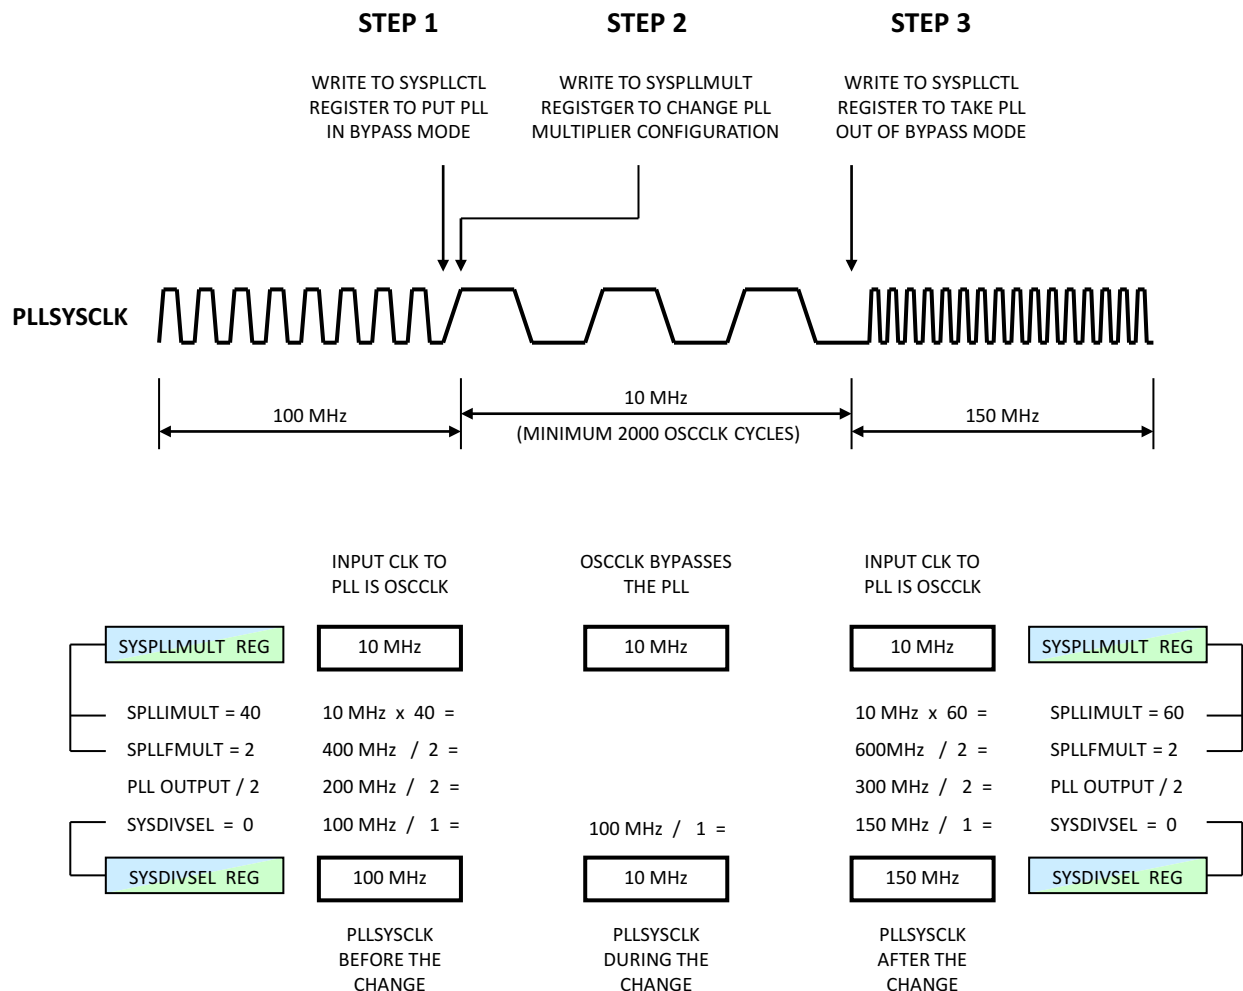

Figure 5-4. Changing the Frequency of the Main PLL
Figure 5-4 shows how to change the frequency of the Main PLL. The three steps are described below:
1. The PLL must first be placed in bypass mode (by writing to the SYSPLLCTL register) before any changes are made to the SPLLIMULT and SPLLFMULT fields of the SYSPLLMULT Register. Figure 5-4 shows that before being placed in bypass mode, the internal PLLSYSCLK clock was operating at 100 MHz. After entering the bypass mode, the PLLSYSCLK becomes 10 MHz, which is the frequency of OSCCLK, the input clock to the PLL.
2. Once the PLL is placed in bypass mode, the SYSPLLMULT register can be modified to increase the PLLSYSCLK frequency to 150 MHz. See Figure 5-4 for the settings of the SPLLIMULT (integer) and SPLLFMULT (fractional) multiply fields of the SYSPLLMULT register for this step, and see Figure 2-8 for the functional description of the Main PLL. The PLL bypass mode must be maintained for at least 2000 OSCCLK cycles in order for the PLL to properly lock to the new frequency.